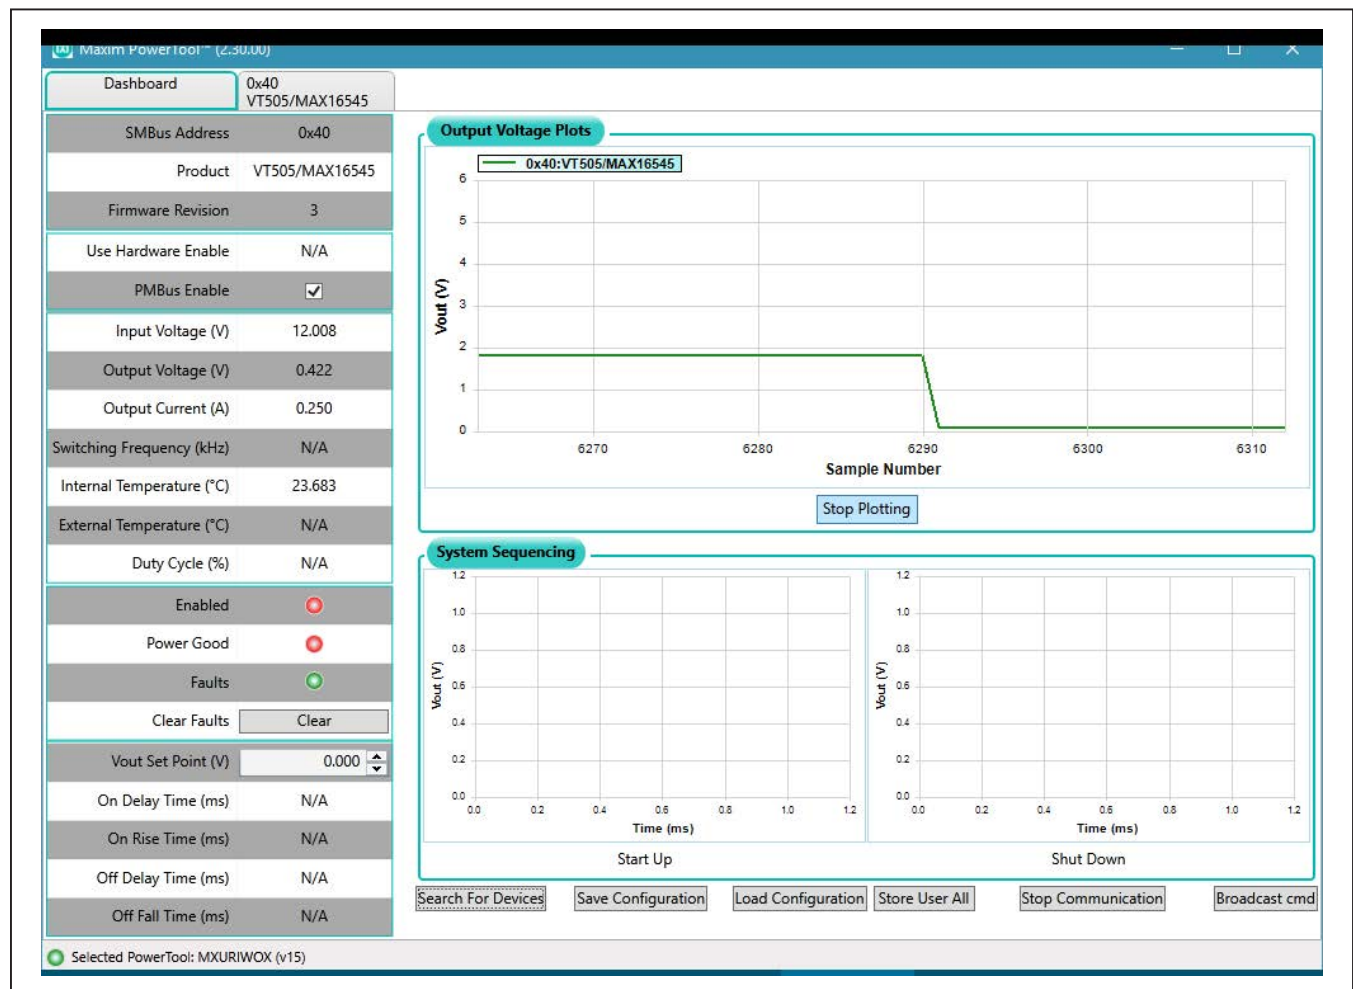

Figure 1. PowerTool GUI connected to a disabled MAX16545B device
- 10) Check that the GUI shows a connection to a "VT505/MAX16545" device as shown in Figure 1.